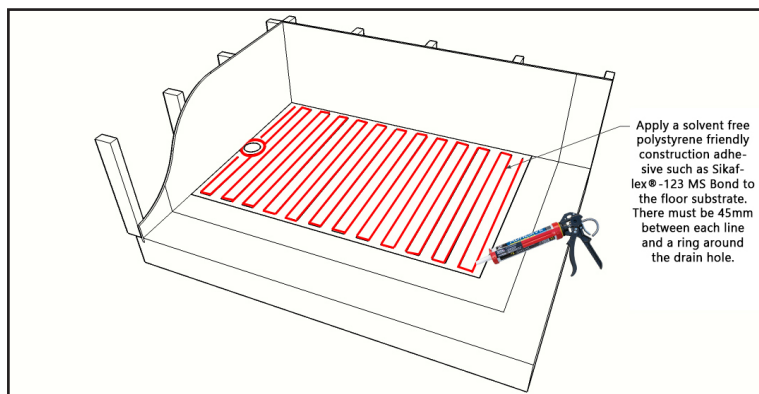

Fig. 3.1: Adhesion of the base using a solvent free polystyrene friendly construction adhesive such as Sikaflex®-123 MS Bond.
**a)** Apply a solvent free polystyrene friendly construction adhesive such as Sikaflex®-123 MS Bond to the marked floor area. Adhesive should be applied in a zigzag format with a generous bead – this is to prevent any potential air pockets forming under the base. (See Fig. 3.1)